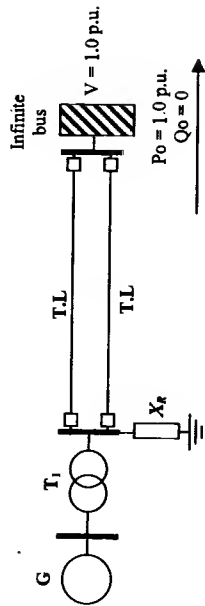

Fig. 6
6. Consider the system shown in Figure 6. Find the synchronizing power and the natural frequency of free oscillations.